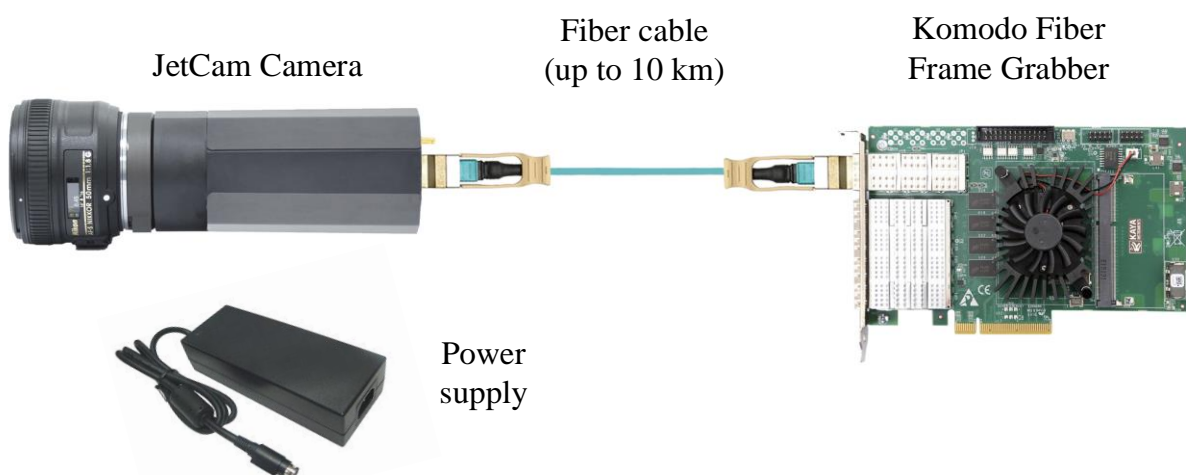

Figure 2 : JetCam Camera system connection diagram
The typical *JetCam* system is connected as described in Figure 2:
- d. Connect the fiber cables as described in Figure 2.